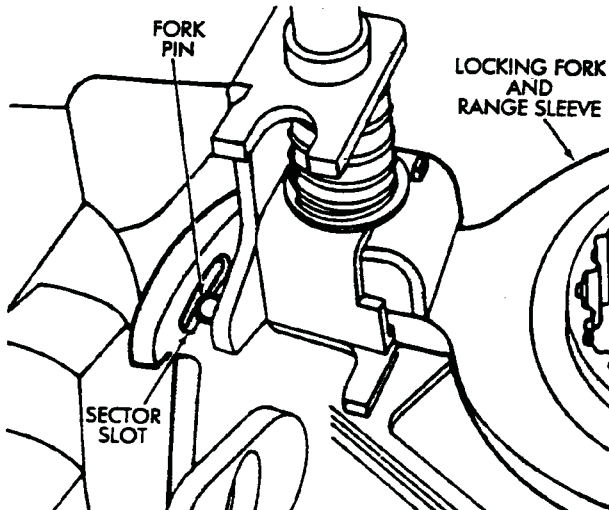

Fig. 4-50 Install Locking Fork and Range Sleeve
40. Install range sleeve in locking fork (Fig. 4-50).
41. Install locking fork and sleeve on shift rail (Fig. 4-50). Be sure fork pin is engaged in sector.